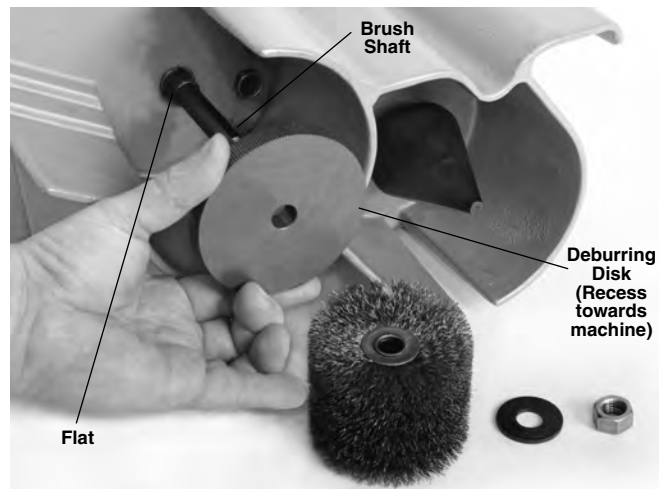

Figure 5 – Installing Deburring Disk
1. Hold the O.D. brush shaft stationary by gripping the flats located near the surface of the housing with a 9/16" wrench (*Figure 5*).